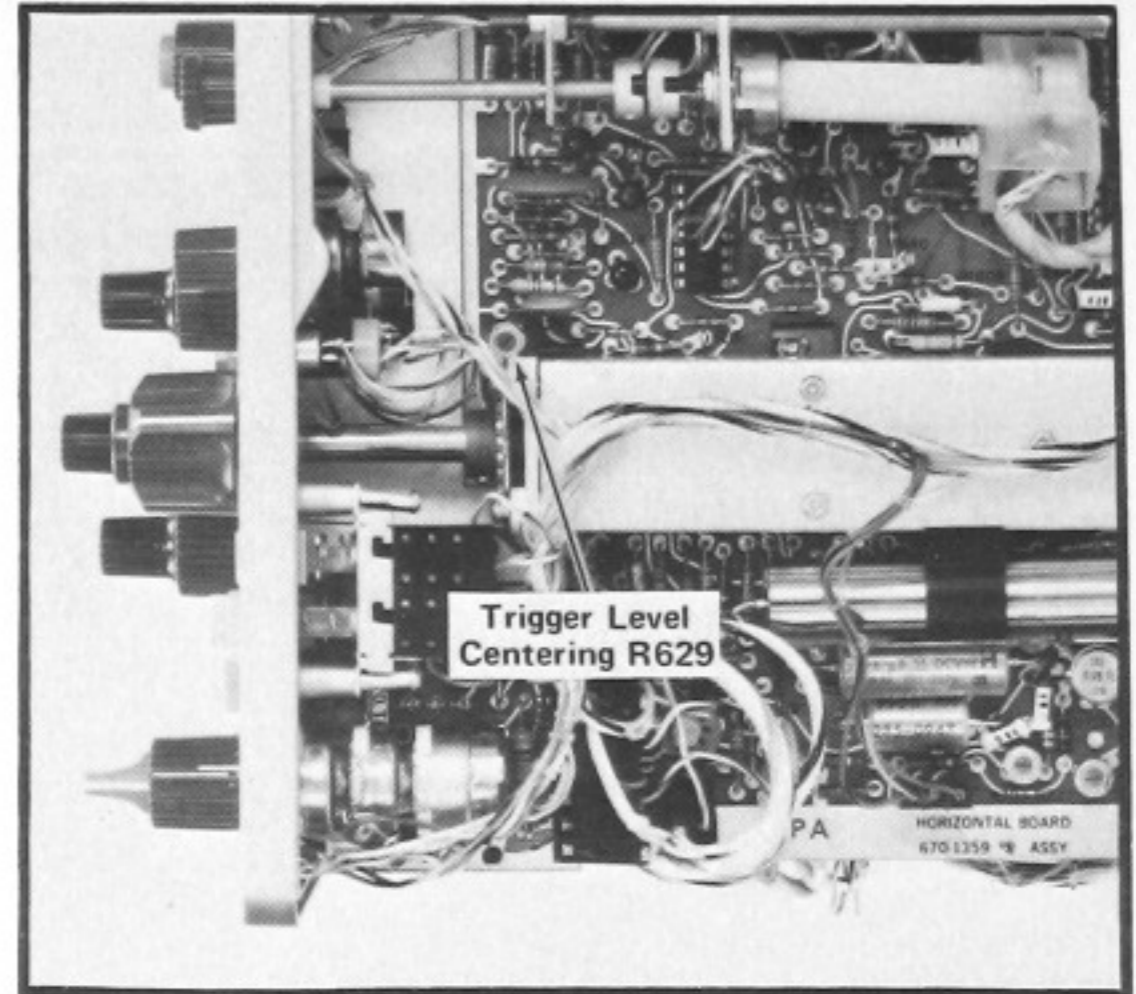

Fig. 5-9. Location of Trigger Level Centering adjustments.
e. ADJUST—Trigger Level Centering adjustment R629 (see Fig. 5-9) for a stable display in the + position of the TRIGGER SLOPE switch with the TRIGGER LEVEL control centered.